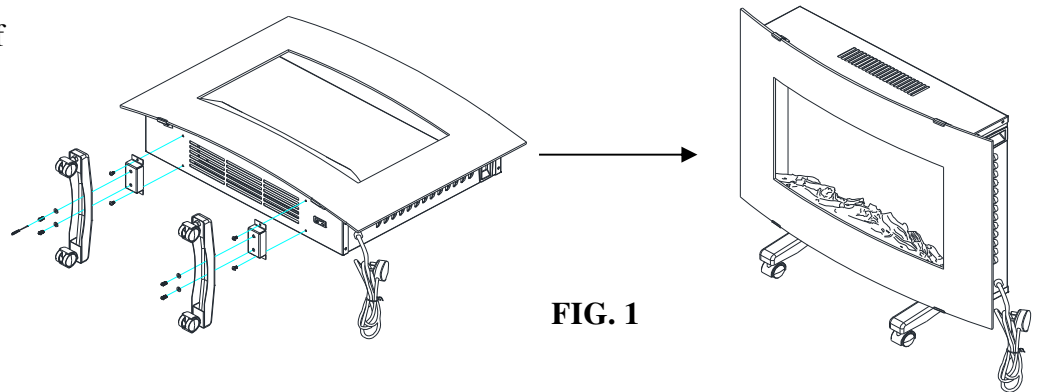

FIG. 1
12. For assembling the wheels, follow the instructions in Figure 1.
Lay carefully the appliance and apply the wheels at the bottom of the foot as shown in figure 1.